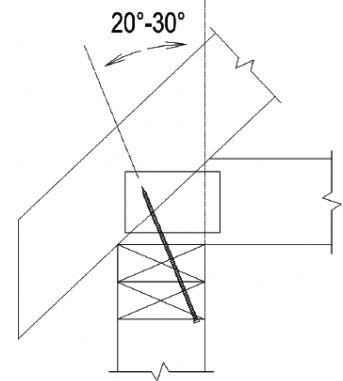

FIGURE 1
- a. The screw should be installed at an upward angle from the vertical of 20 degrees to 30 degrees (Figure 1) and should penetrate the wood truss, rafter, or joist within ¼” of the centerline.